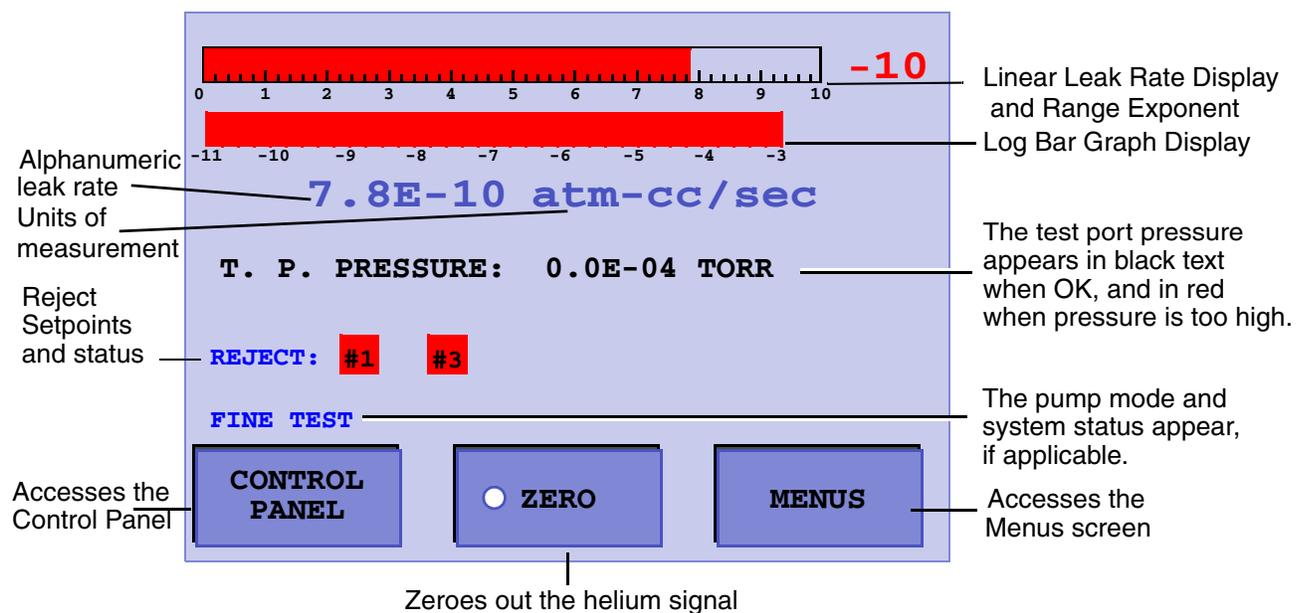

Figure 2-2 Home Screen
Two soft key buttons, Control Panel and Menu, give access for changing the leak detector configuration (Figure 2-2).
- Digital Leak Rate** Correlates (Figure 2-2) directly with the log bar graph leak rate display. The units for the measurements are selected on the Units Set-Up screen (see Section 3.1.5 "Units" on page 3-15).